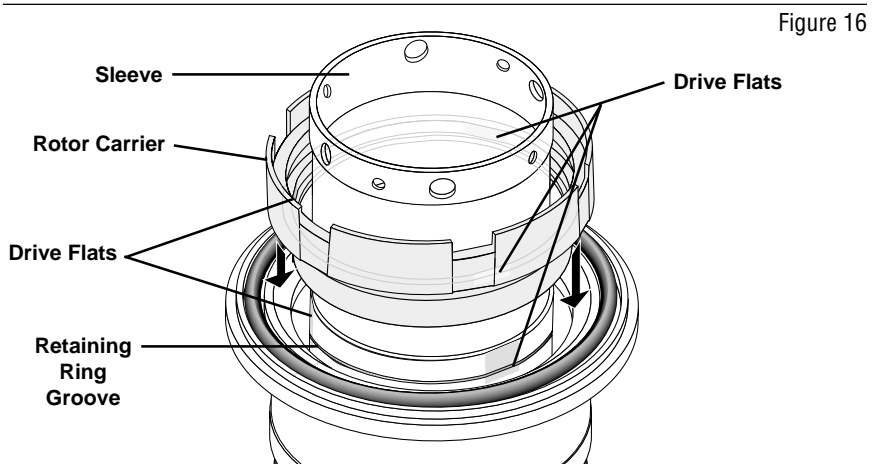

Figure 16
4.13 Align the three drive flats on the rotor carrier with the drive flats on the sleeve and press the rotor carrier on the sleeve with the pumping vanes face up. (Figure 16)